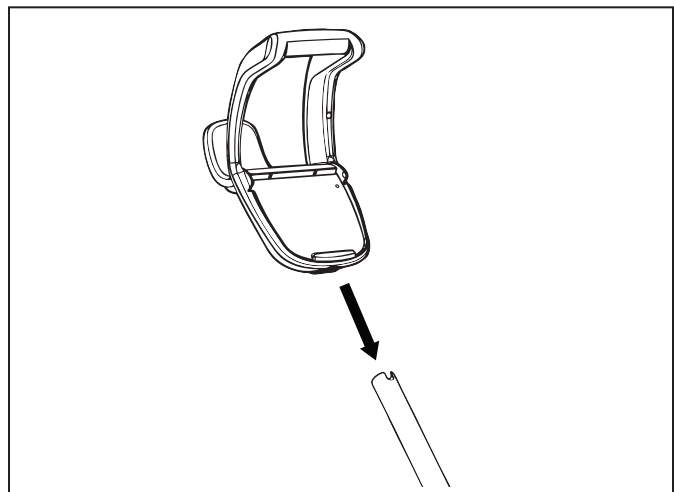

Figure 6. Attach Caddy Handle
7. Slide the control unit base / caddy handle attachment down over the metal handle until it snaps into place. (See Figure 6).